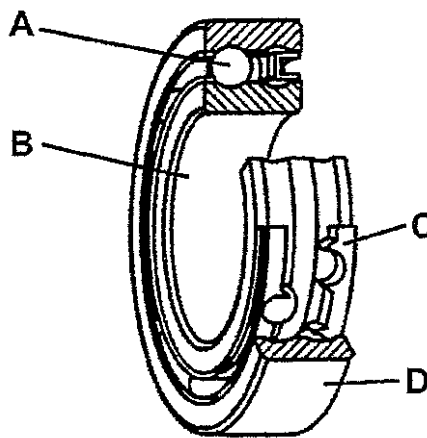

FIGURE 2
- 3.2 Refer to FIGURE 2 of the bearing.